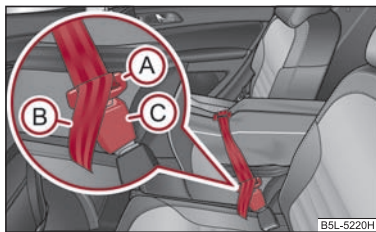

Fig. 98 Securing the removeable through-loading bag
- Insert the lock tongues (A) ⇒ fig. 98 in the belt locks of the rear middle seat belt (C), first of all on the one side and then on the other side.
- Place the securing belt in the middle of the skis between the heel and the tip of the bindings and pull the securing belt tight at the free end of the belt (B).